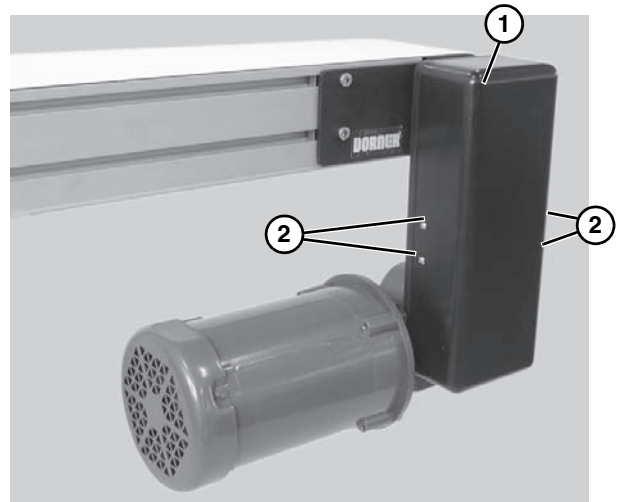

Figure 12
- Install cover (**Figure 12, item 1**) with four (4) screws (**Figure 12, item 2**). Tighten screws to 35 in-lb (4 Nm).
1. Remove four (4) screws (**Figure 12, item 2**) and remove cover (**Figure 12, item 1**).
4. Install cover (**Figure 12, item 1**) with four (4) screws (**Figure 12, item 2**). Tighten screws to 35 in-lb (4 Nm).
6. Install cover (**Figure 12, item 1**) with four (4) screws (**Figure 12, item 2**). Tighten screws to 35 in-lb (4 Nm).